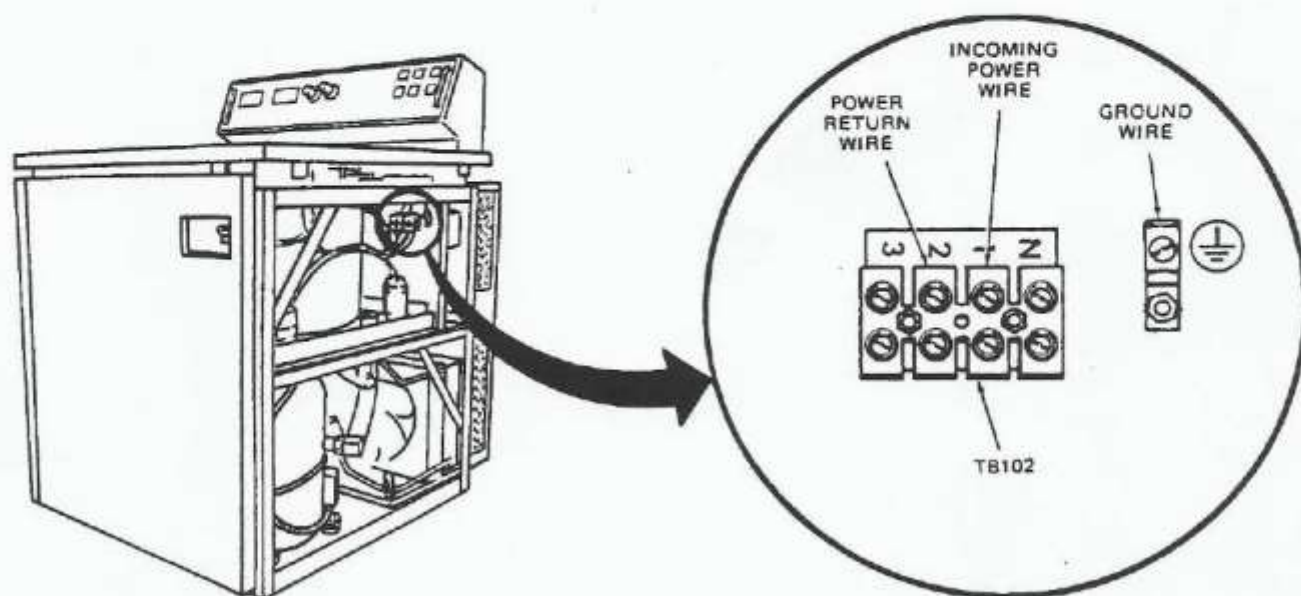

Figure 2-1. Single Phase Permanent Wiring
4. Connect the safety ground wire to the lug connector marked GND \oplus , figure 2-1 (on the next page).